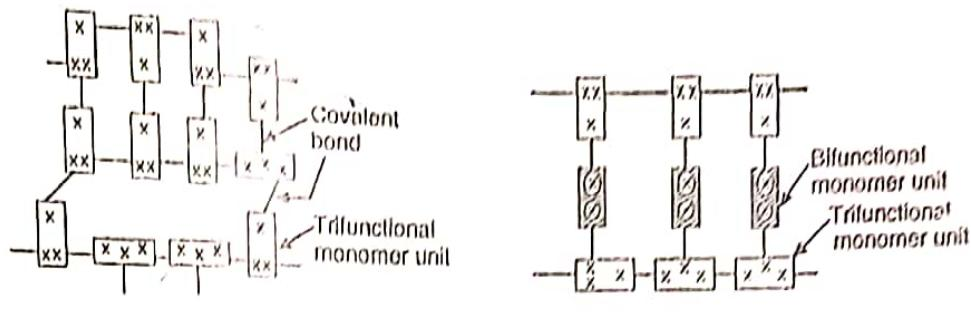

Fig. 3. Formation of a three-dimensional network polymer : (a) reaction of three-functional molecules, (b) reaction between two and three-functional molecules.
(3) In case of polyfunctional groups, monomer molecules are connected to each other by covalent bonds, resulting in the formation of a three-dimensional network. In such polymeric molecules, the movement of individual molecules is prevented by strong cross-links (see Fig. 3).